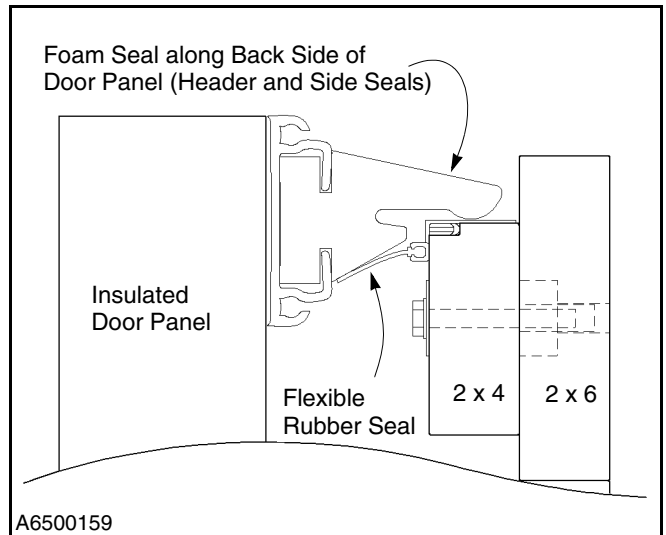

Figure 40
2. From the back side of the door, check the horizontal seal between the door and the upper edge of the door opening. The rubber seal across the top of the door opening must fit tight against the foam seal that runs across the back of each panel. (See Figure 40.)